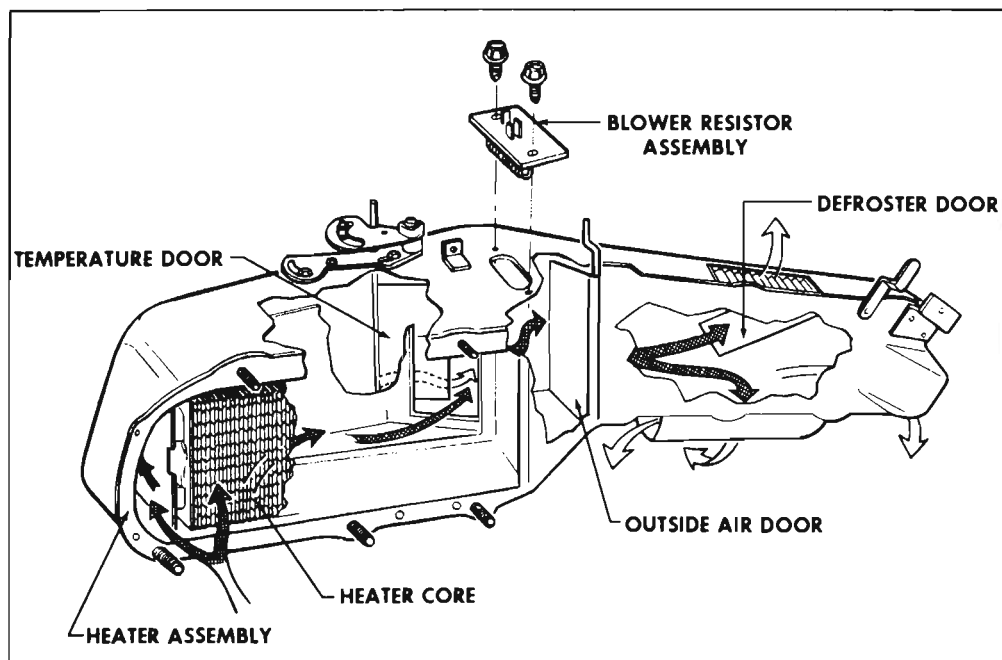

Figure 11-12—Heater Assembly
2. Heater Assembly—The heater assembly (see Figure 11-12) houses the heater core and the doors necessary to control mixing and channeling of the air. Air entering the heater assembly divides into two channels: (1) through the heater core and (2) through a by-pass around the
6. Remove connector from blower resistor assembly (see Figure 11-12).